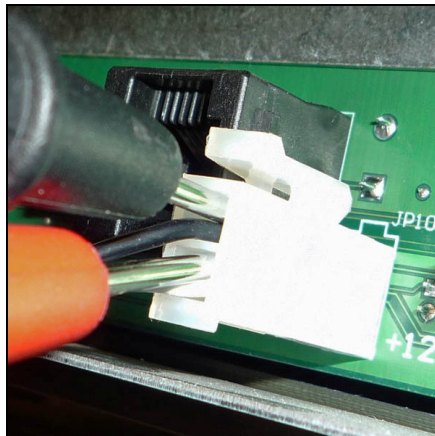

Fig. 10
1. Set the multi-meter to read DC voltage. Insert the leads into the plastic connector (Fig. 10). The leads must be in contact with the pin in the plastic connector to get a proper reading. There should be at least 11 VDC.